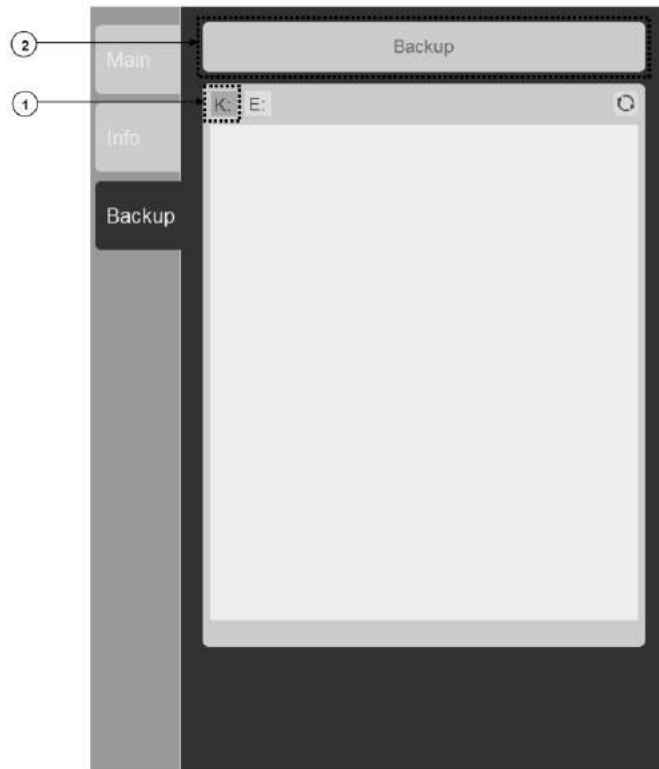
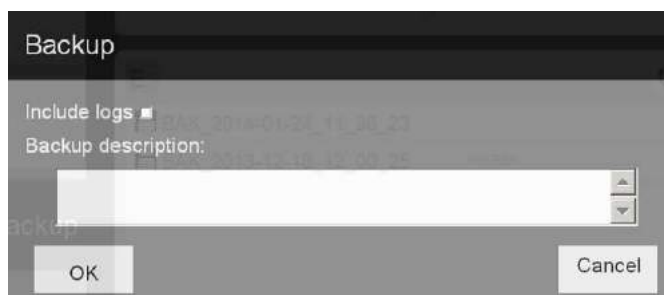

Figure 16.7. Backup Tab
Figure 16.8. Backup Window
- Select the unit of the USB data storage device (different from the “E:\” unit) (Figure 16.7, no. 1).
- Click on the **Backup** button at the top of the window (Figure 16.7, no. 2). A confirmation window opens with the following options (Figure 16.8):